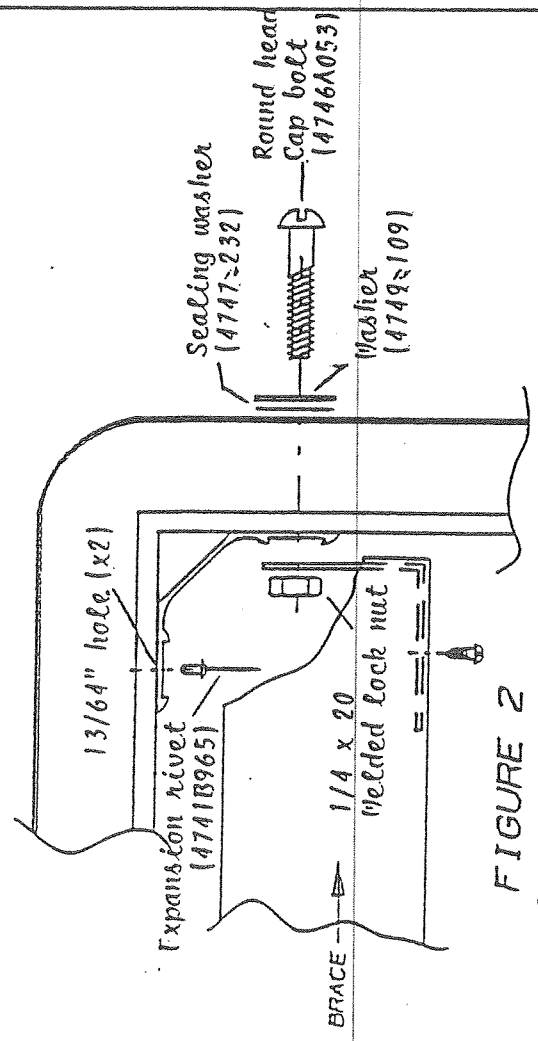

FIGURE 2
3. Using a drill and a 1/4" drill bit, drill a hole through the curbside of the camper top. Locate this hole 1 7/8" back from the rear screen door track and in line with the phillips-head screws (or rivets) along the bottom flange of the interior cove molding. See Figure 2.
4. Drill a second hole through the roadside of the camper top using the dimensions in Step 3 as a guide. See Figure 2.
5. Using two of the L-shaped mounting bracket assemblies (4747-695), two machine bolts (4746A053), two sealing washers (4747-232), and two flat washers (4749-109), fasten one bracket on each side of the camper top using the holes drilled in Steps 3 and 4. The long flange of the bracket should face down. See Figure 2.
6. Using the holes drilled in Steps 3 and 4 as reference points, drill two 13/64" holes in the upper top flange of the interior cove molding on both sides of the top assembly. Locate these two holes 1/2" out on each side of the reference points. See Figure 2.
- CAUTION:** Do not drill completely through the top assembly. Holes should be drilled through metal cove molding and inside vinyl-coated paneling only. See Figure 2.